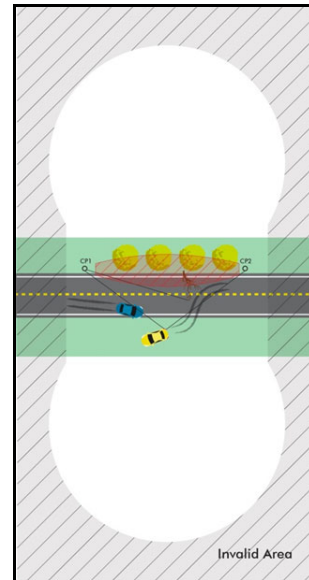

Figure 13
Feature locations that produce poor or invalid data points (Figure 13). Features that fall in the hatched area (1) between the control points or outside of the figure '8' shape will be difficult to map. Set new control points to map those features (Page 54).
Geometry Warning - If the feature (data point) being mapped falls into the invalid area (Figure 13), it can present a possible error. The user can choose to accept marginal data and add the point anyway or select cancel and re-measure the point.